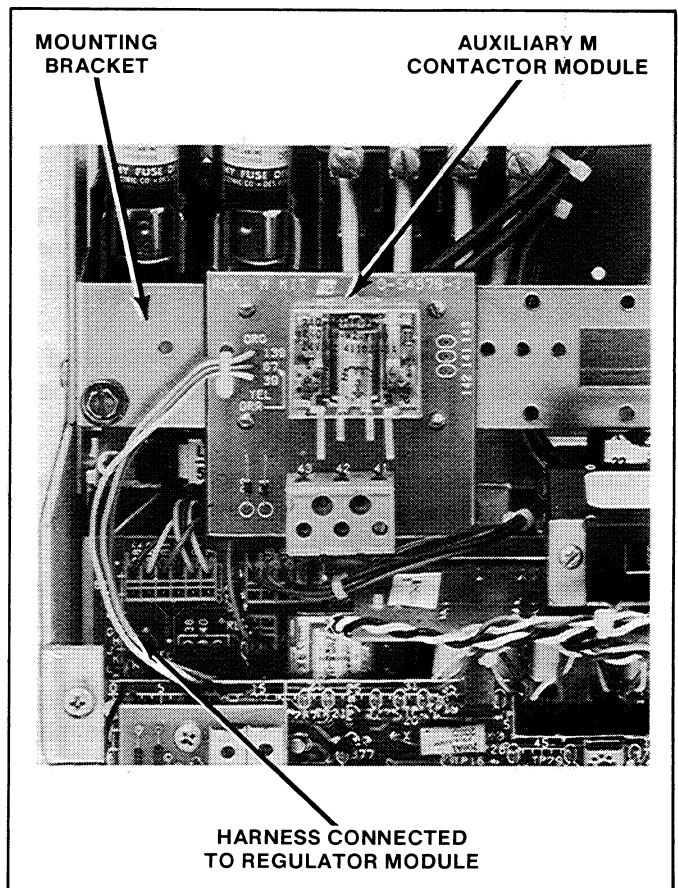

Figure 5.6. Auxiliary M Contactor Kit installed.
5.3 Auxiliary M Contactor — With the optional Auxiliary M Contactor Kit, the ON/OFF status of the Regenerative FlexPak Plus (S2R) is able to be interlocked with user-supplied devices. (Refer to Figure 5.6.) Typical applications include pilot/indicator lights, alarms, and interlocking with other control circuits dependent on the drive system.
Step 1 — Mount the Auxiliary M Contactor Module on the Mounting Bracket. (Refer to Figure 5.6.) Note that orientation is important. The overhanging edge of the assembly **must** hang over the Regulator Module. Then snap the assembly into the Bracket.